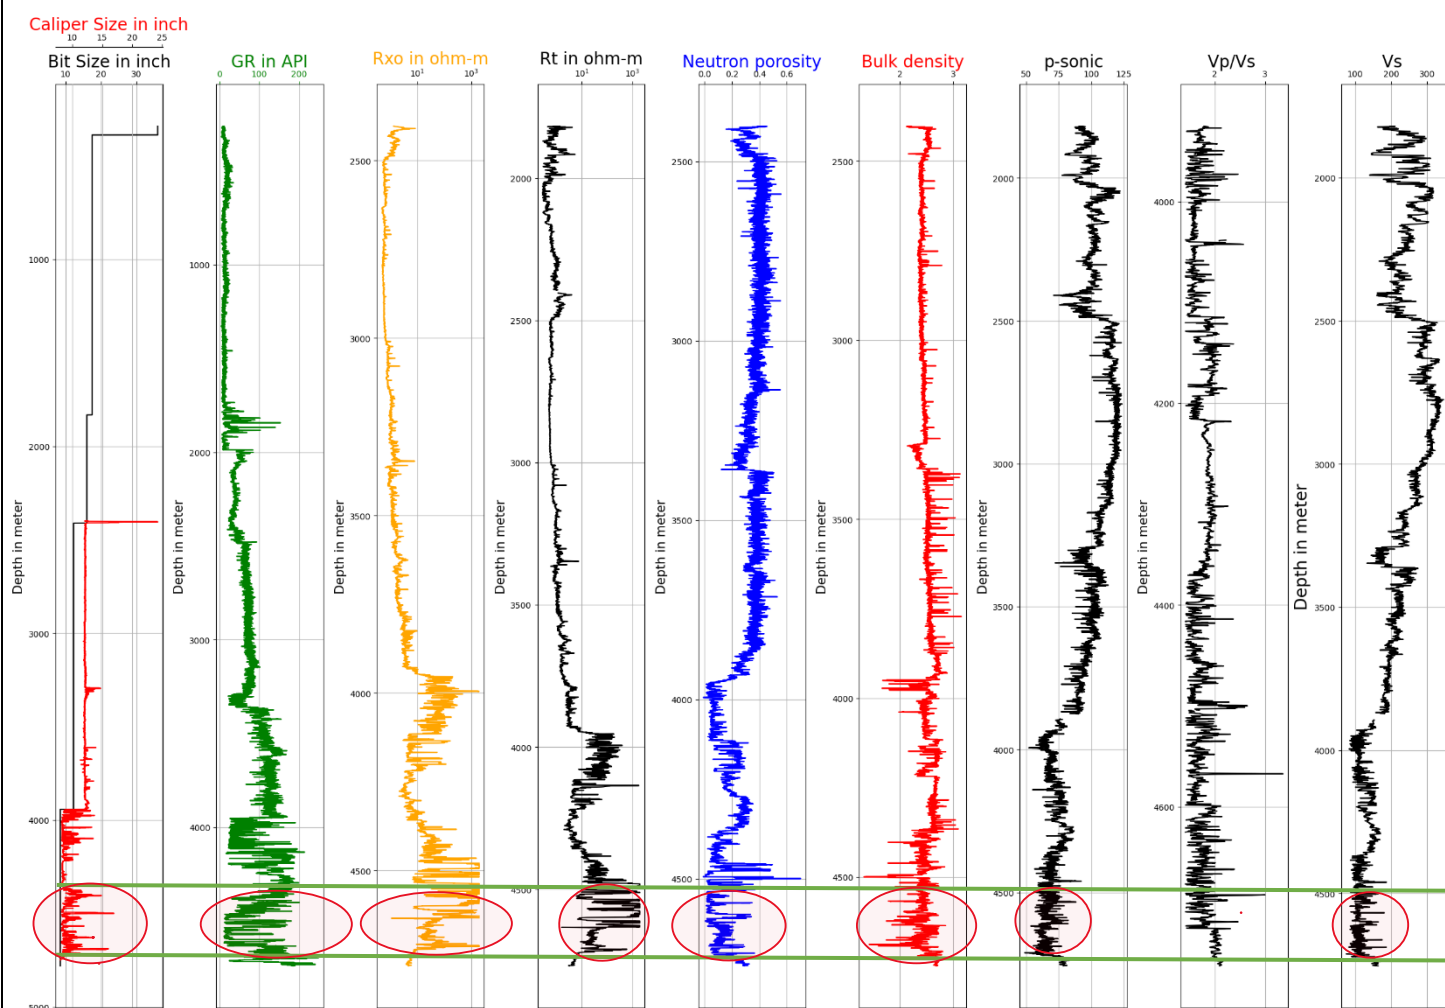

Figure 5: Bad borehole marked according to caliper response
- we know that if calliper log having higher and lower value than bit size of .5 inch then that zone identified as bad borehole zone. From figure 5 I can easily say that below 4000 m data is little bit affected by Bad borehole condition.